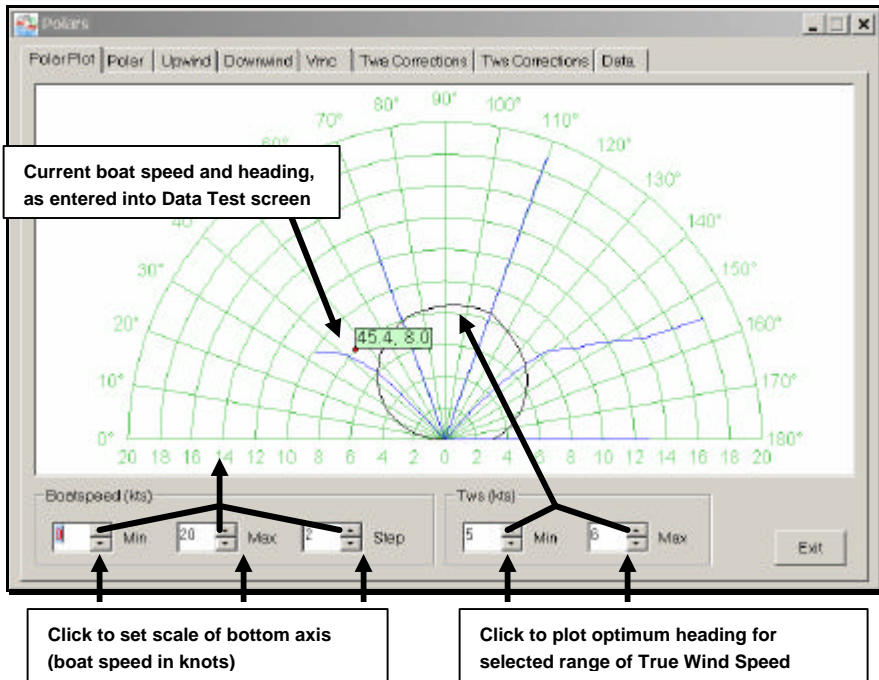

Figure 5-18. Polar Plot Example Screen
3. As shown in Figure 5-18, select the boat speed scale (bottom axis) you want displayed by clicking on the **Boatspeed (kts)** up/down arrows or by entering numbers directly.
To read a Polar plot, refer to the example in Figure 5-18 and the following plot component definitions:
- The line that describes a semi-circle (beginning from 0°, 0 Kts on the example plot) plots the optimum heading and resultant speed relative to the True Wind Speed (Tws) range you enter at the bottom of the screen (see Figure 5-18). As you increase the Tws range, additional lines are plotted onto the graph, showing the heading you should take to make optimum progress as wind speed increases. These lines are displayed in black.